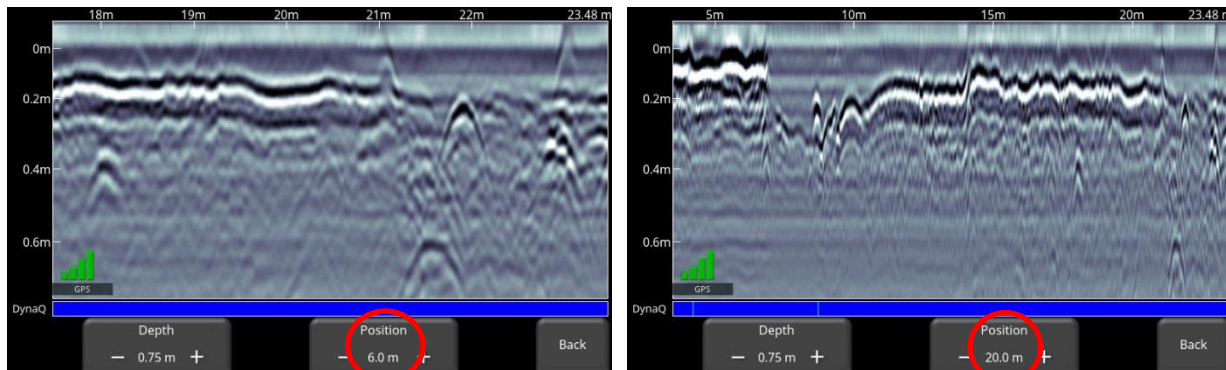

Figure 7-12: Varying the position, or horizontal scaling
- Position** – Pressing + and - under the **Position** button allows you to change the length of data display on a single screen. This is also known as horizontal scaling. One reason for setting this higher would be to fit more data on the screen and look for consistency among hyperbolas that were crossed (Figure 7-12).